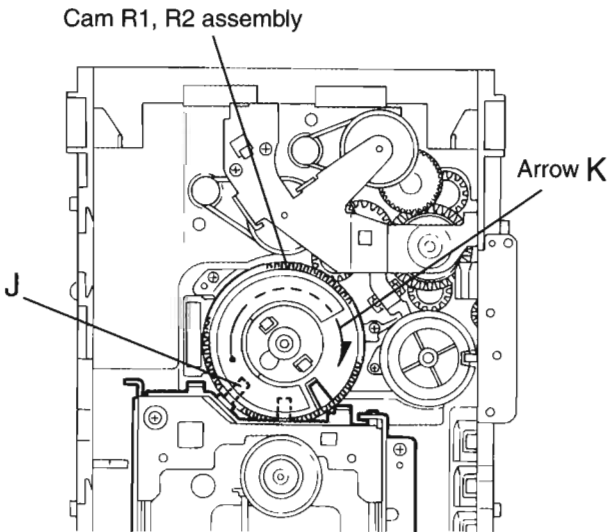

Fig.11
Removing the CD mechanism (See Fig.11 and 12)
1. For dismantling only the CD mechanism without removing the CD mechanism assembly, align the shaft "J" of the CD mechanism assembly to the position shown Fig.11 while turning the cam R1 and R2 assembly in the arrow direction "K" .